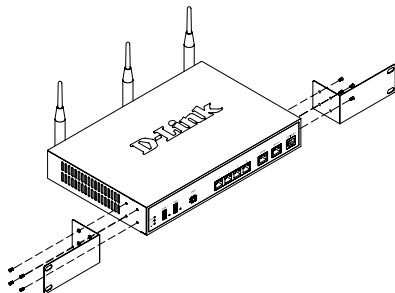

Figure 3. Attaching Rack Mount Brackets
1. Attach the mounting brackets to each side of the chassis as shown in figure 3 and secure them with the screws provided.